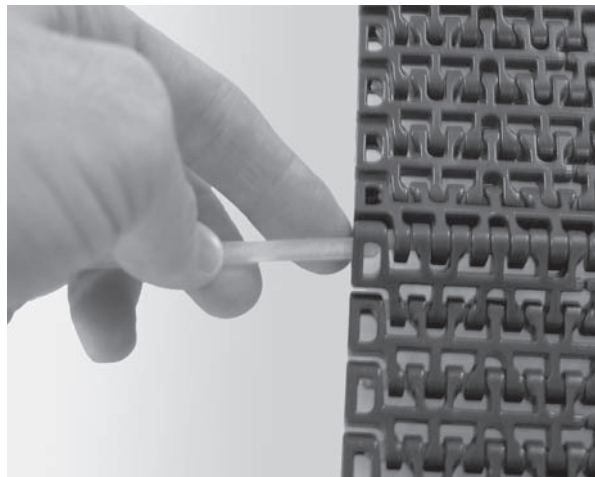

Figure 58
2. Use a second belt rod of the same size to push on the opposite end of the belt rod. (Figure 58).